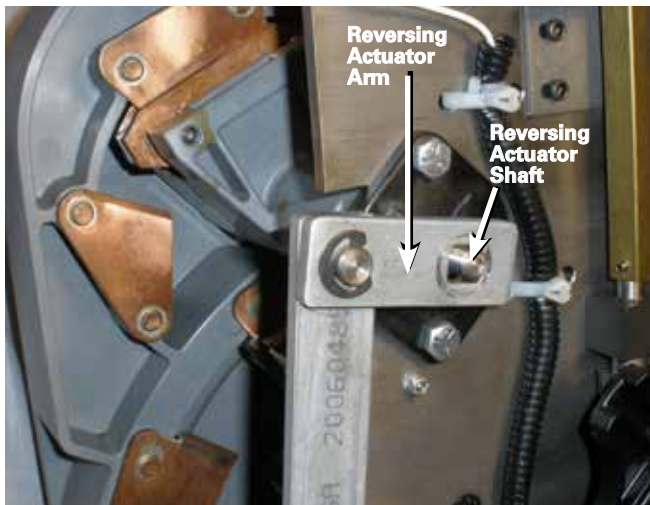

Figure 30. Removal of actuator arm.
2. Lift outward on the reversing actuator arm and remove it from the reversing movable contact bushing. The reversing actuator shaft may be tapped in to allow clearance to remove the arm. See Figures 30 and 31.